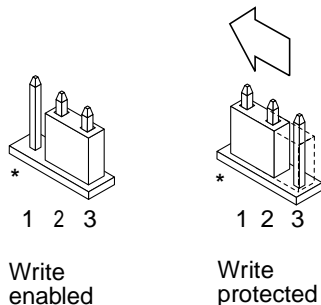

FIGURE 4-6 Moving the Write-Protect/Enable Jumper Back to the Write-Protect Position
- f. Reset the J2003 write-enable/protect jumper to the write-protect position. In the write-protect position pins 1 and 2 are jumpered (see FIGURE 4-1, FIGURE 4-2, FIGURE 4-3, FIGURE 4-6, and TABLE 4-4). You may need to remove a plug-in card from the system before resetting the jumper if the card is covering the jumper. Pin 1 is noted by an asterisk (*).